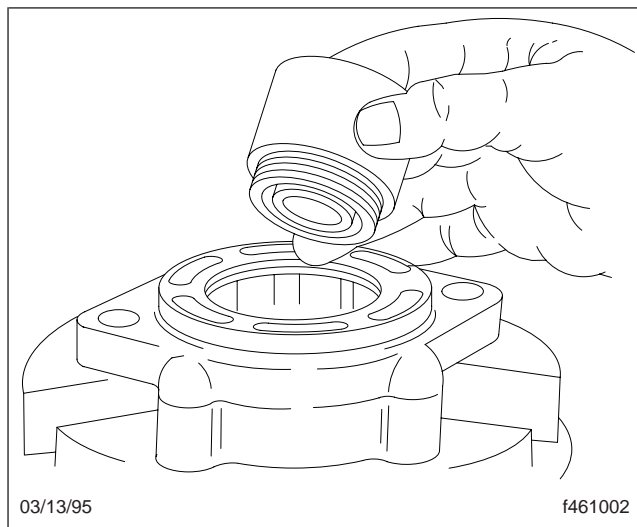

Fig. 27, Installing the Seal in the Cover
1. Coat the outside surface of the shaft seal with a petroleum-based chassis grease. With the lettered side facing toward the needle bearing, press the seal into the cover. See Fig. 27. The